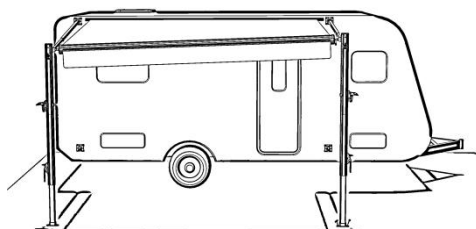

Figure D19
4. We recommend that the awning be used only for sunshade purposes. In the event of severe rain, snow, or strong winds, please retract the awning to avoid damage. If it is drizzling, adjust the height of the support rods to tilt one side of the awning for quick drainage of accumulated water. (Figure D19)